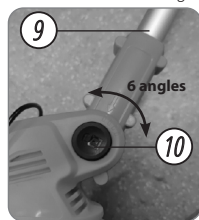

Fig. 9
- Cutting angle position 6 (see fig. 9)